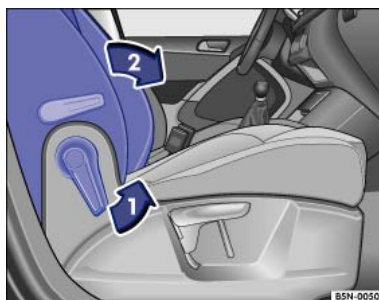

Fig. 83 Front passenger seat: folding backrest forwards.
- Release the front passenger seat backrest in the direction of the arrow ⇒ *Fig. 83 ①* .
- Fold the front passenger seat backrest forwards in the direction of the arrow ⇒ *Fig. 83 ②* until it is horizontal.
- To fold back, release the front passenger seat backrest ⇒ *Fig. 83 ①* .